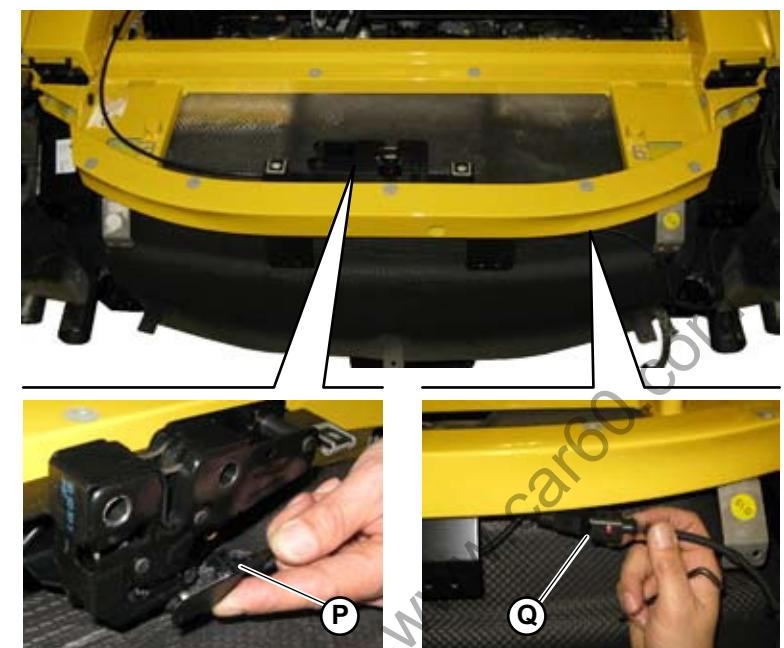

Fig.10
11. Connect the hood opening cable (**P-Fig.10**).
12. Connect the connector (**Q-Fig.10**).